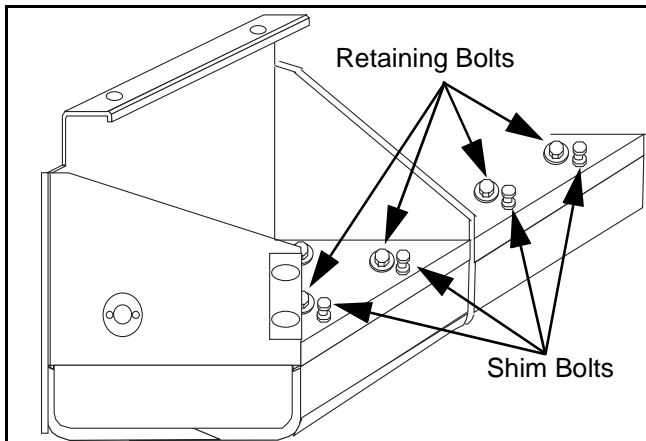

Figure 21 Adjusting Angle of Attack - Original Version
- 2) Once the desired angle is obtained, re-tighten jam nuts and retaining bolts. (Figure 21)